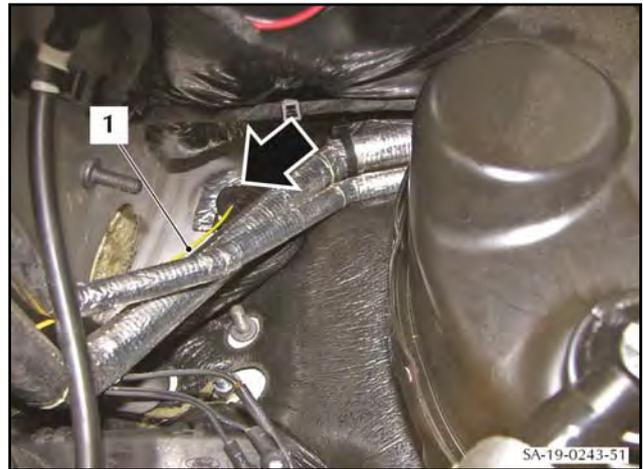

Figure 66
92. Find the hole in the bulkhead shown in Figure 66. If necessary, remove insulation material to get access.
93. Put the end of the new ground wire (1) through the hole in the bulkhead into the cabin.